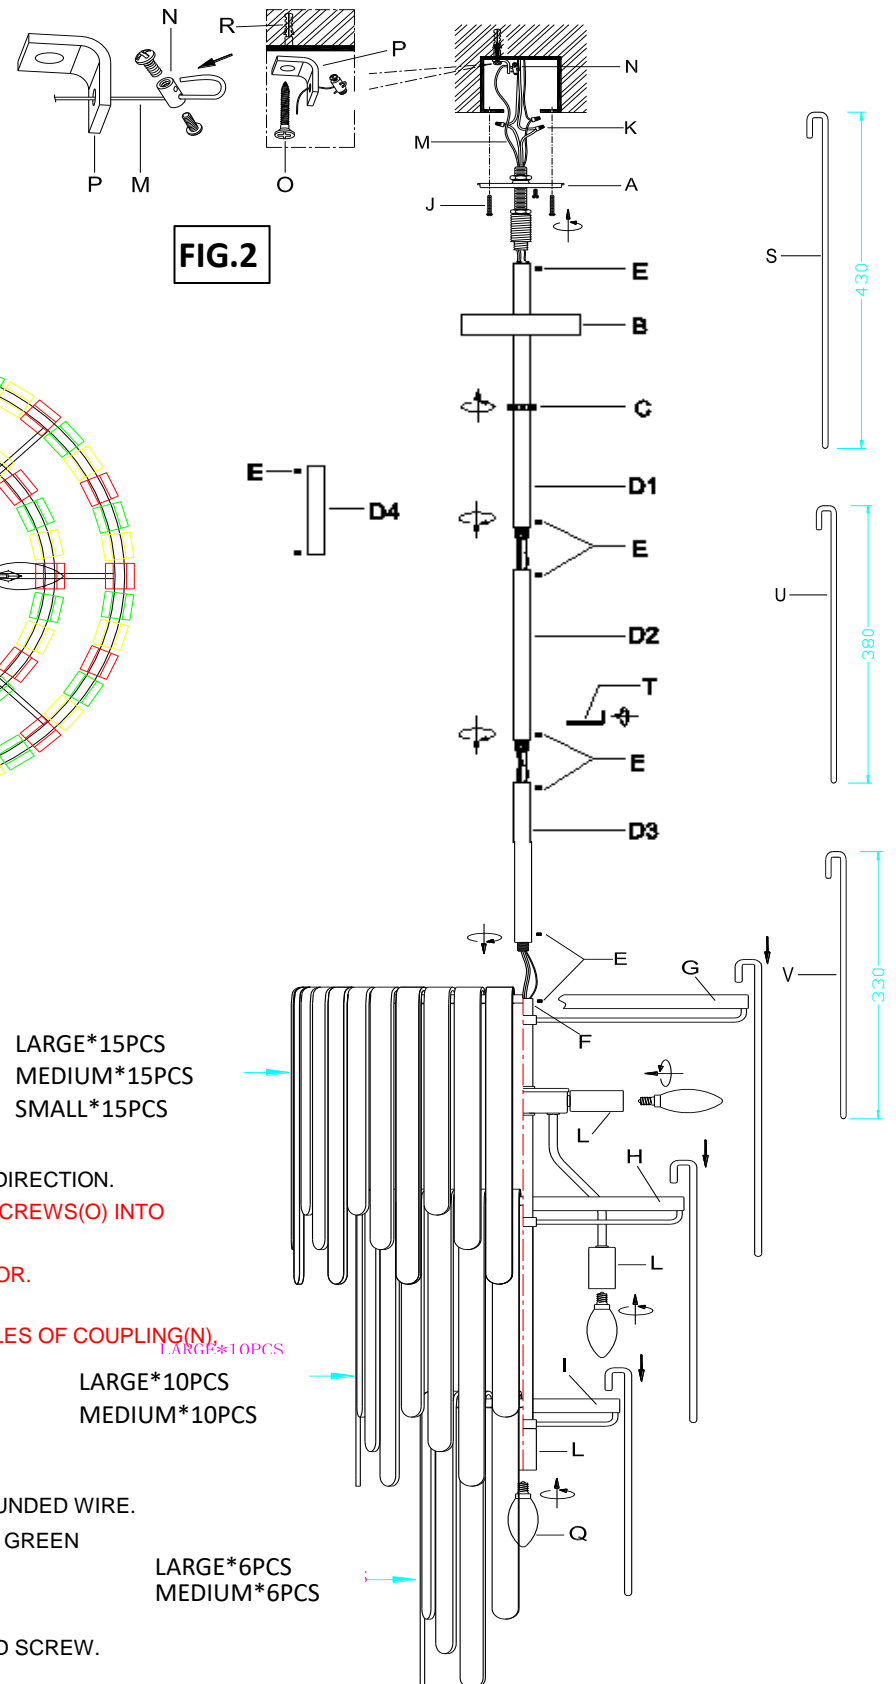

FIG. 2
PASS THE STEEL ROPE (M) THROUGH THE HOLE OF BRACKET (P), AND PASS THE STEEL ROPE (M) THROUGH THE 2 HOLES OF COUPLING (N), THEN FIX WITH 2PCS SCREWS PROVIDED IN THE COUPLING (N) AS FIG. 2.